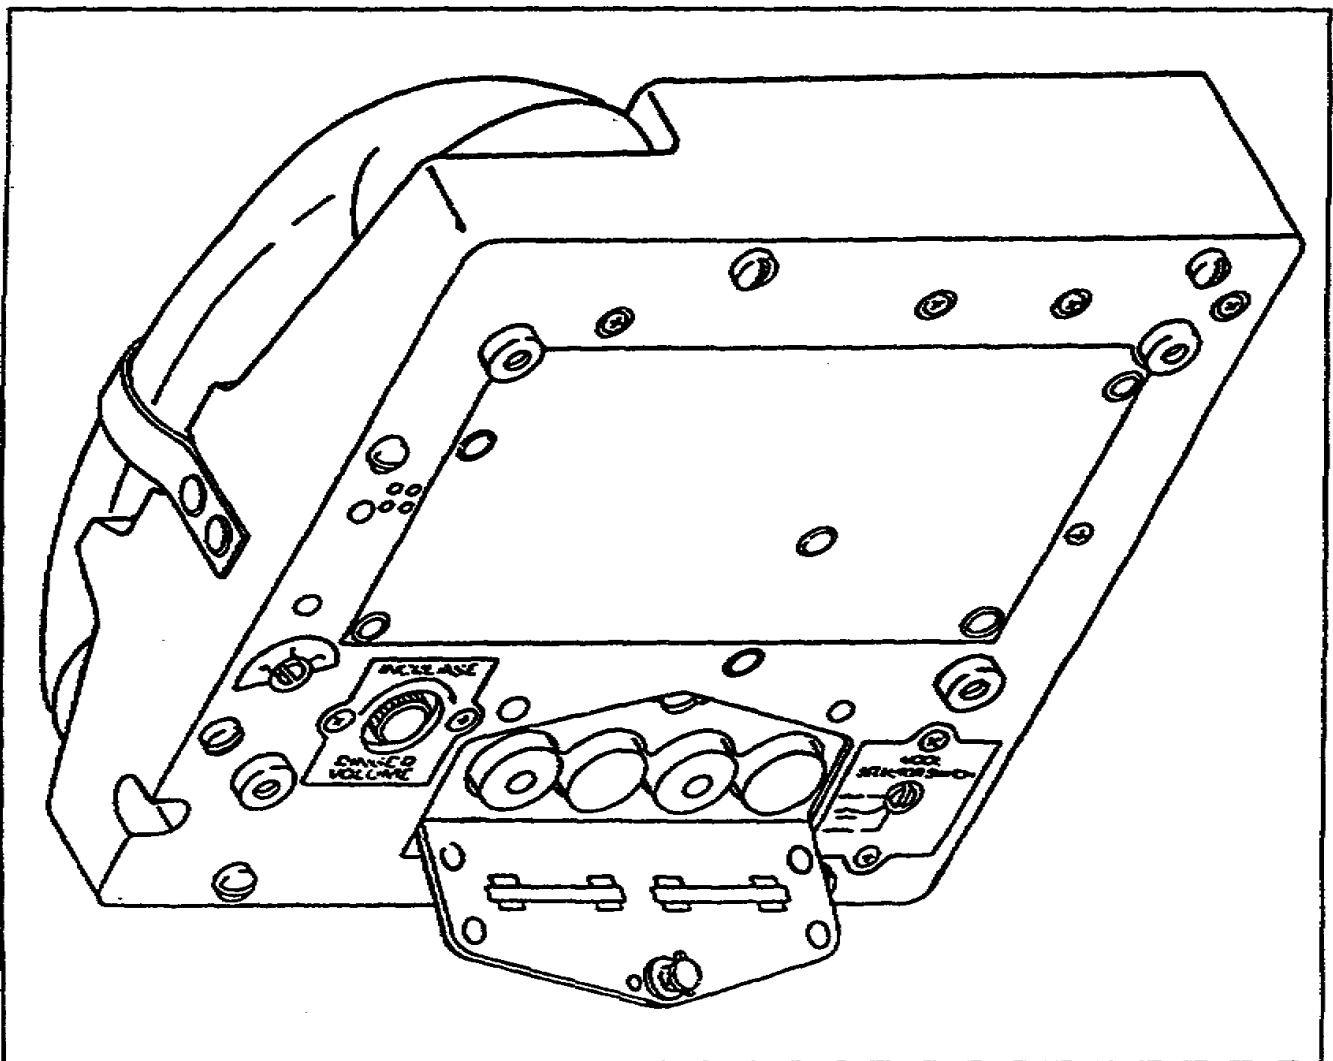

Figure 1-3. Battery compartment and installation.
16. The voltage requirements for this telephone is 4.4 to 6.4 volts DC. This is provided by batteries BA-42 or BA-3042. They are installed in the telephone base in the compartment between the two controls marked RINGER VOLUME and the MODE SELECTOR switch. The battery that is next to the RINGER VOLUME control has the positive terminal up. The next battery has the positive terminal down, then up, and finally down. When the batteries are in position, you must close the compartment door and secure it with a screwdriver. (See Figure 1-3.)